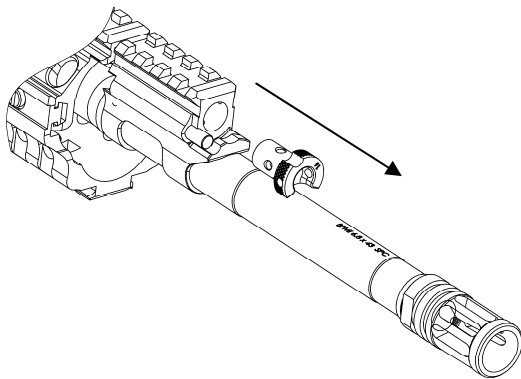
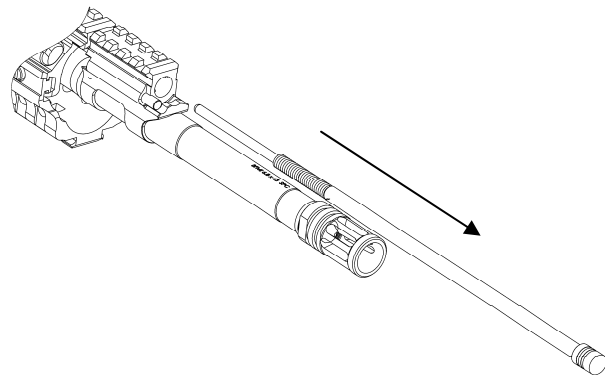

Figure 24.
Figure 25.
2. Remove gas plug from gas block and tilt gun muzzle down. (Figure 24). Gas piston will fall free through front of the gas block. (Figure 25).